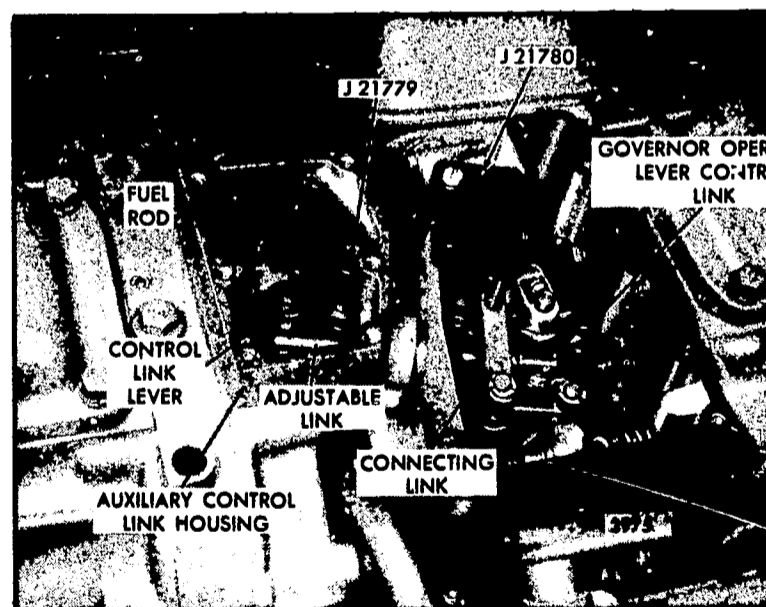

Fig. 13 - Positioning control link levers.
1. Disconnect the linkage to the governor speed control and shut-down levers, see Figure 13.
6. Remove the connecting pin from the control link lever in the governor housing and install gage J 21780. Install the gage so the pin extends through the connecting link, control lever, and fuel rod; and the governor housing dowel pin extends into the small hole in the gage. Then install a governor cover bolt as shown in Figure 13 to lock the gage in place. With gage J 21780 in place, the governor control link lever will be in the mid-travel position and parallel to the auxiliary control link lever.